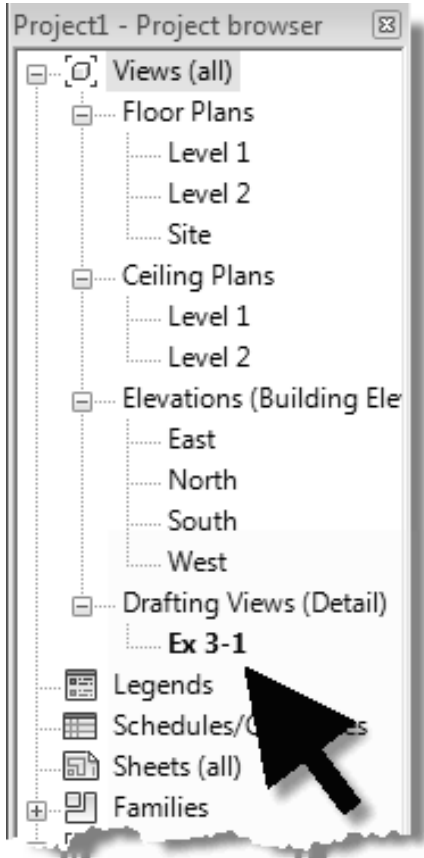

Figure 3-1.4 Project Browser: Drafting Views
7. In the *Project Browser*, click the plus symbol next to the label **Drafting Views**; this will display the *Drafting Views* that exist in the current project (Figure 3-1.4).